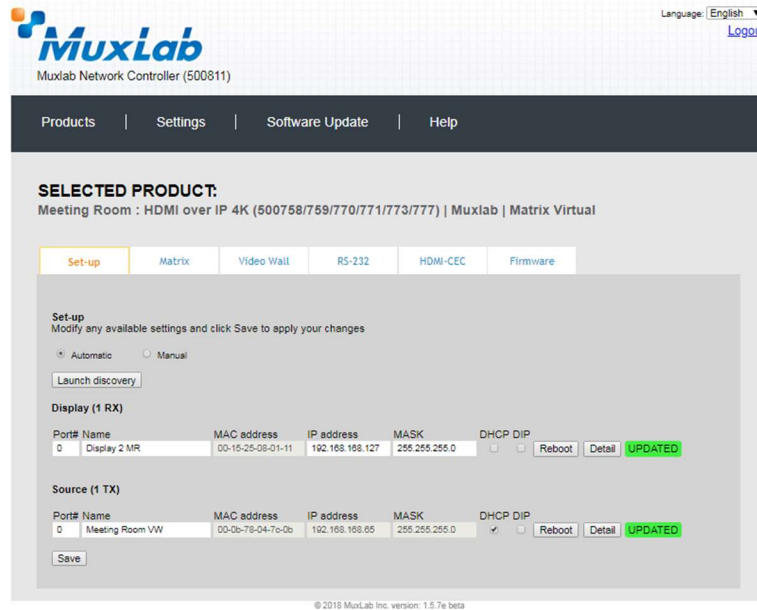

Figure 358: Saving Name Changes
Each 500777 transmitter and receiver can be assigned an arbitrary descriptive name, normally reflecting the end device that it is terminated to. To change the name of any Source (TX) device, click the **Name** field to edit its contents. Several **Name** fields can be edited before saving changes, as shown in Figure 358 (orange highlighted fields).